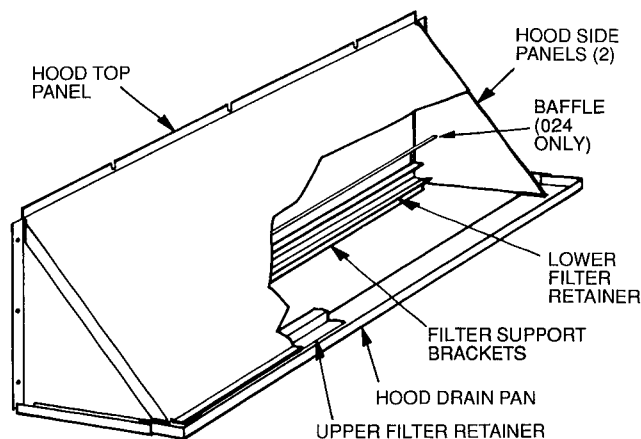

Fig. 21 – Outdoor-Air Hood Details
2. Assemble hood top cover, side panels, upper filter retainer, and drain pan (see Fig. 21).
3. Secure lower filter retainer and long portion of support bracket to unit. See Fig. 21. Leave screws loose on 024 units.